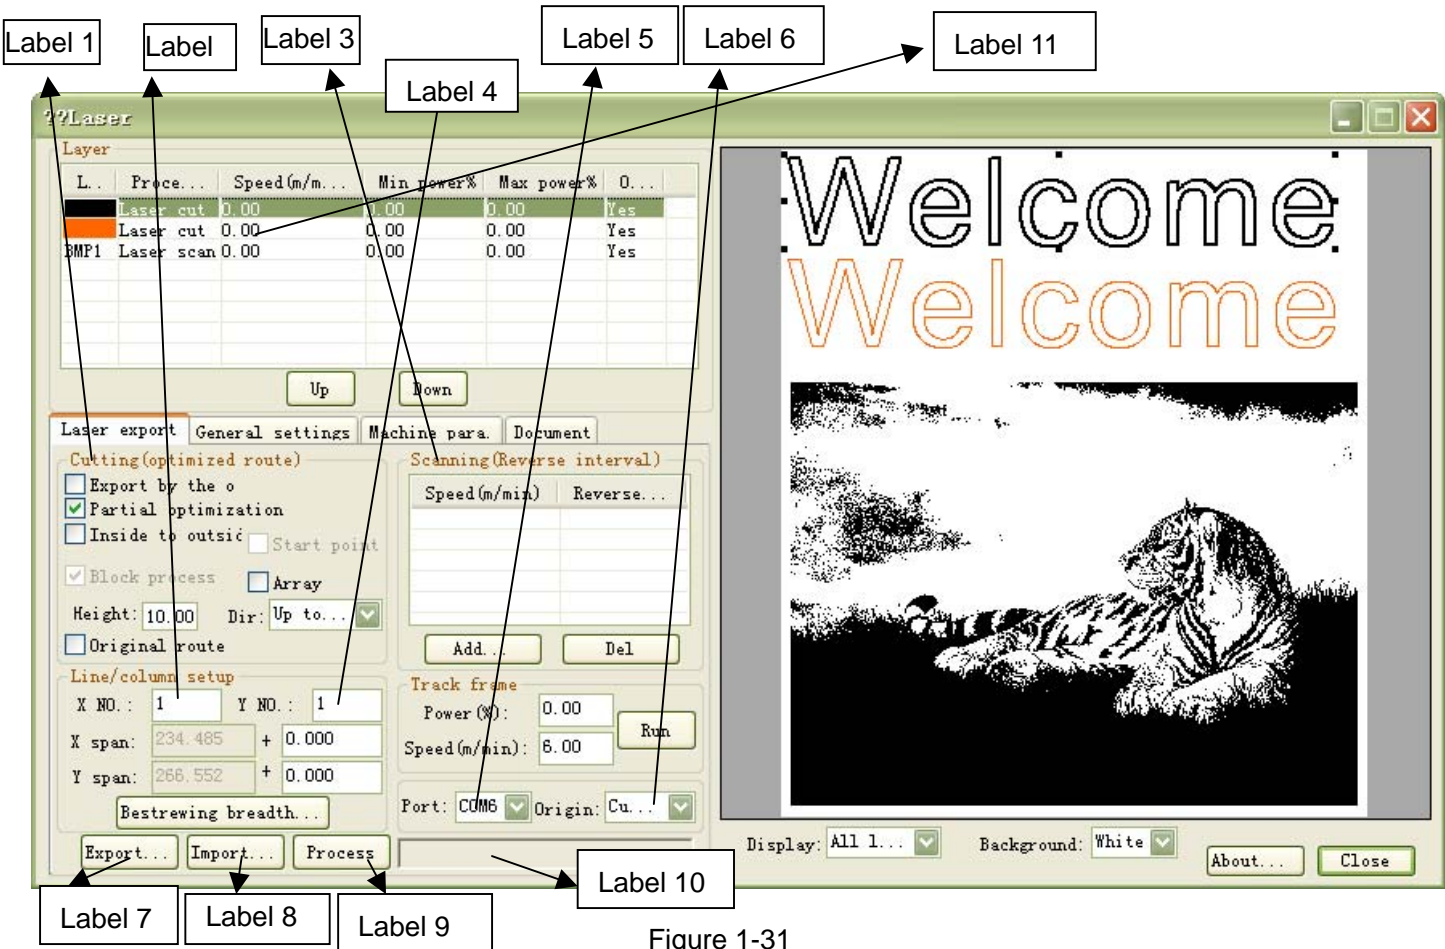
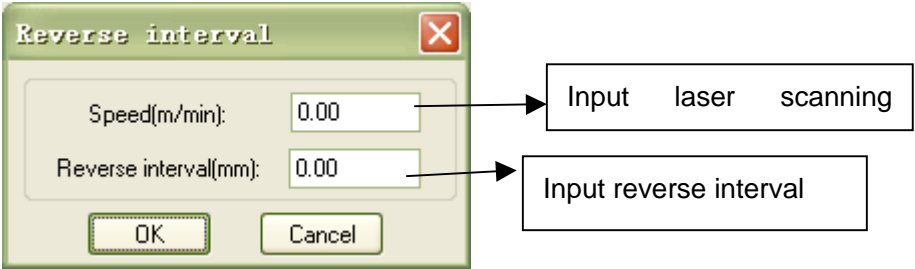

Figure 1-31
Figure 1-32
(1) Setup of *Cutting (optimized route)* (as Label 1 in figure 1-31)
Export layers to the machine for processing in turn according to the order of layers from the top down as shown in Label 11. For example, the black layer is above the red layer in figure 1-31, then we have to cut the black “Welcome to use” before cutting the red “Welcome to use”. **We do not select (check) *Export by the order of layers in general*.**
Left click on the *add* button in Label 2 block of figure 1-31, a menu as figure 1-32 will pop up:
Input Speed (e.g.: 8) and Reverse interval (e.g.: 0.3) as shown in figure 1-32, then click on the *OK* button, a menu as figure 1-3 will pop up 3:
- (4) Setup of *track frame*(as Label 4 in figure 1-31)
(5) *Port* selection (as Label 5 in figure 1-31)
(6) Selection of *Origin*(as Label 6 in figure 1-31)
(7) *Export* (as Label 7 in figure 1-31)
(8) *Import* (as Label 8 in figure 1-31)
(9) *Process* (as Label 9 in figure 1-31)
(10) Display of the current operation status (as Label 10 in figure 1-31)